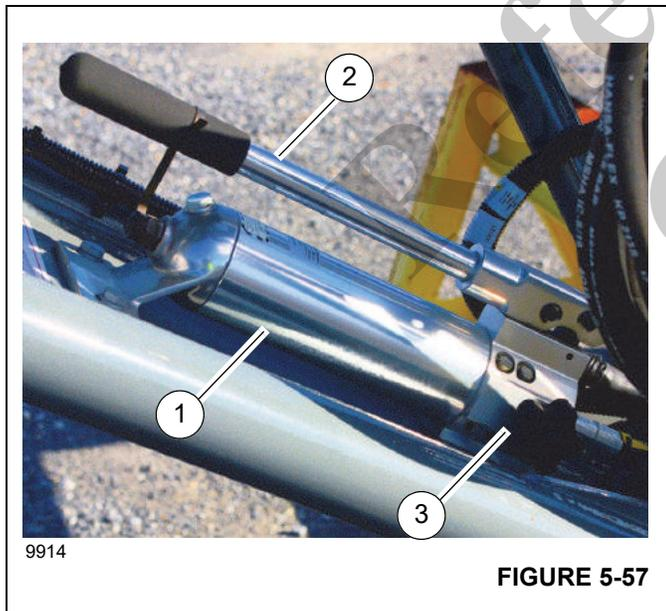

FIGURE 5-57
16. Using the tag line, swing the boom extension to the front of the main boom. Align the boom extension anchor fittings (1) with the main boom attachment fittings (2).
17. Install four pins (5, Figure 5-41) and retaining clips (6) to secure the boom extension to the boom nose. If necessary, remove the upper (7) and lower (8) hoist rope rods and retaining clips (9) to install the pins (5). Use the jack (1, Figure 5-57) as necessary to install the fourth pin as necessary as follows: